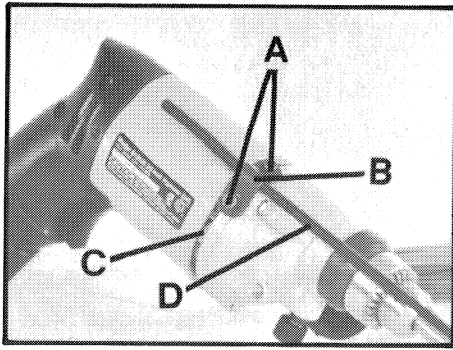

Fig. 4
1. Insert two clamp screws (A) Fig. 4, through clamp (B) and thread into intermediate plate (C).
2. Insert depth rod (D) Fig. 4, through opening between clamp and intermediate plate.
3. Adjust rod so that the distance from end of rod to tip of bit is equal to desired depth of hole and tighten clamp screws (A) securely.